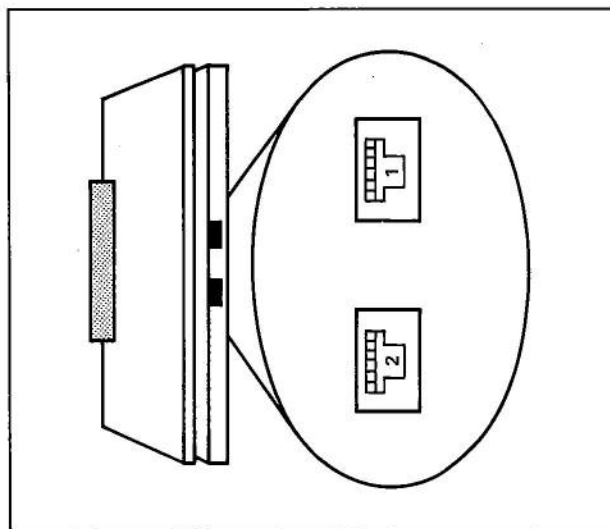

Figure 7 — Thumbwheel Switch Location
Step 7 — Two thumbwheel switches are located near the rear edge of the Module. (See Figure 7.) Both of these must be set to a specific digit in relation to the Reference Numbers assigned to the Module's 2 channels. Read Application Note 11 and refer to Table B. Also use the list described earlier in this publication at "Switch Settings."